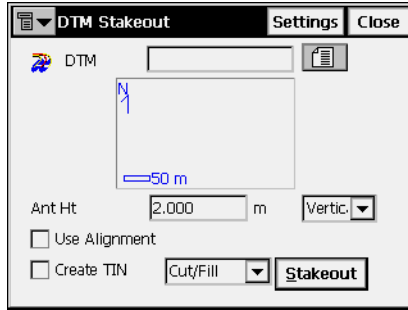

Figure 7-46. Select DTM
1. To stake out points inside of a digital terrain model, select **Stake ▶ DTM**. On the *DTM Stakeout* screen (Figure 7-46), tap the List button to select a TN3 file containing the desired DTM.